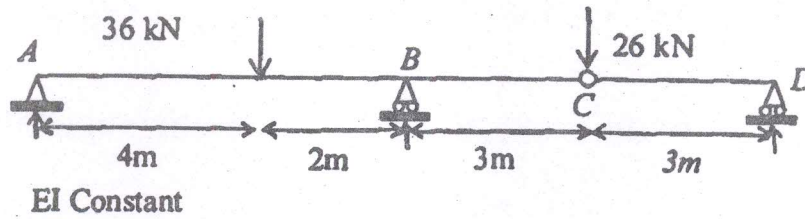

Fig. 1
11. Analyze the continuous beam as shown in figure 1 by the force method. (16)